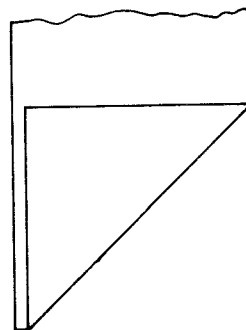

Fig. 71
- Before inserting paper in paper chute make a sharp crease on the paper as shown (Fig. 71).